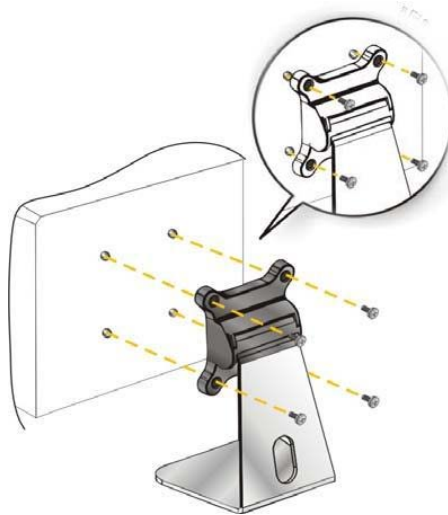

Figure 3-17: Stand Mounting
Step 2: Secure the monitor to the stand with the supplied retention screws (**Figure 3-17**).